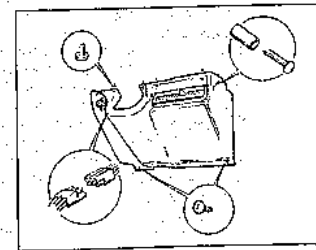

Fig. 12.13 Lower facia panel and fixings (Sec 23)
- 2 Unscrew and remove the lower facia panel retaining screws, the positions of which are shown in Fig. 12.13.